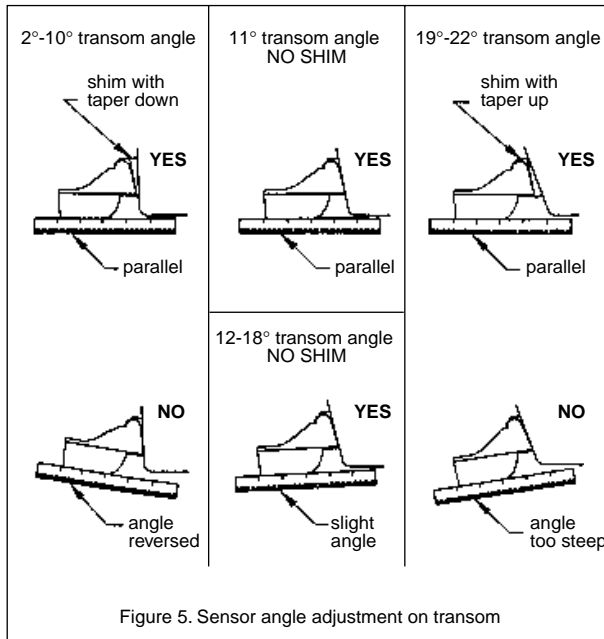

Figure 5. Sensor angle adjustment on transom
1. Using a straight edge, sight the underside of the sensor relative to the underside of the hull. The stern of the sensor should be 1-3mm (1/16-1/8") below the bow of the sensor or parallel to the bottom of the hull (see Figure 5).